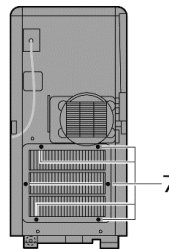

Fig. 10 Rear of the appliance
1. Loosen the 6 screws of the filter holder (see Fig.10).